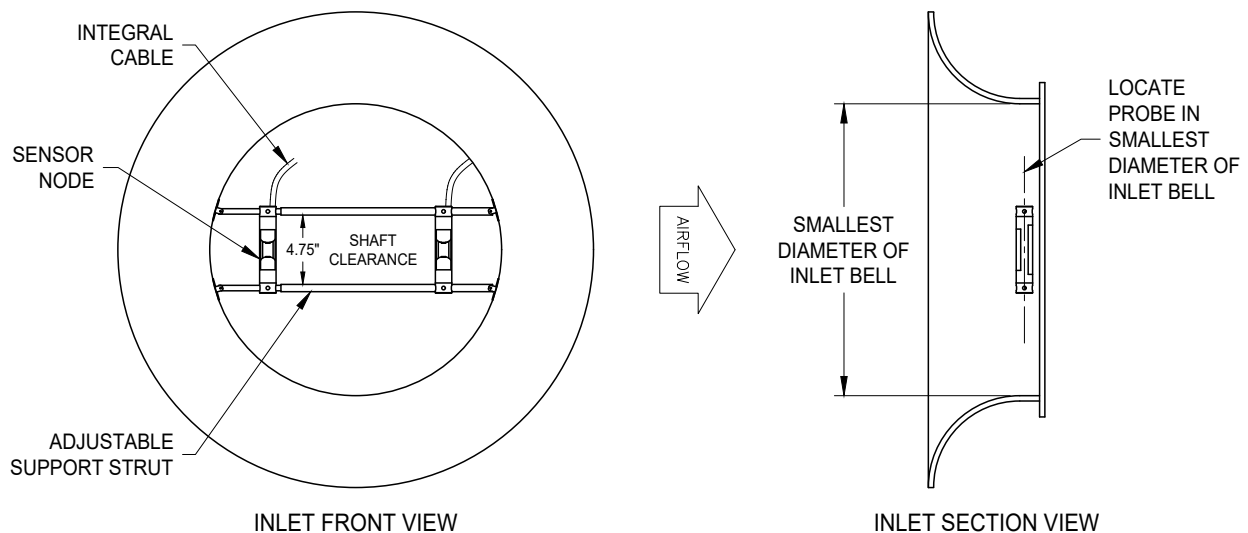

Figure 1
- The ELECTRA-flo/FI probe assembly must be located within the smallest diameter portion of the fan inlet bell. See Figure 1.